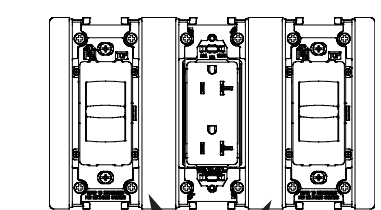

Figure 5 / Figura 5 / Figure 5
- Attach the couplers between the devices with the screws that were removed in step 2. (See Figure 5.)